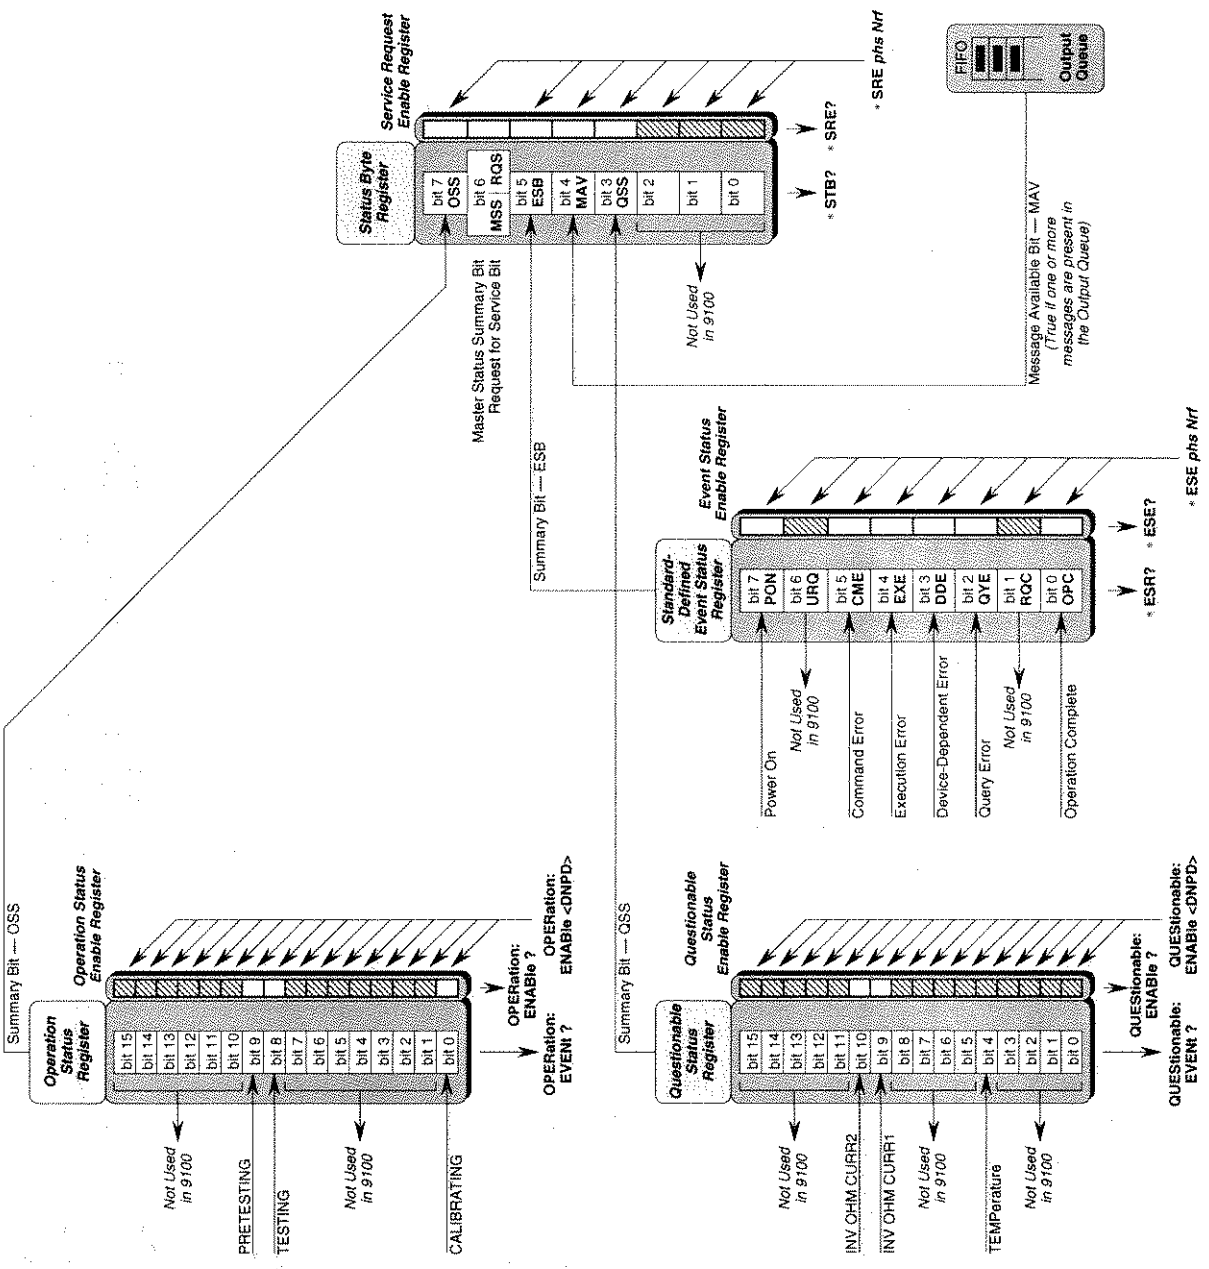

Fig. 6.2 9100 Status Reporting Structure
6.5.2 IEEE-488 and SCPI Standard-Defined Features (Fig. 6.2)
The Status Byte consists of four 'summary' bits which notify events in the 8-bit latched IEEE-488.2-defined 'Event Status Register' (ESB), the two 16-bit latched SCPI-defined registers (OSS & QSS), and the Output Queue (MAV). Whenever one of these summary bits is enabled and set *true*, the Status Byte summary bit (MSS) is also set *true*. The buffered bit 'RQS' follows *true* when MSS goes true, and will set the IEEE-488 SRQ line *true* (Note that in Fig 6.2 no arrow points at bit 6 of the Service Request Enable Register — bit 6 is always enabled).
Referring to Fig. 6.2, take as an example the main Event Status register: